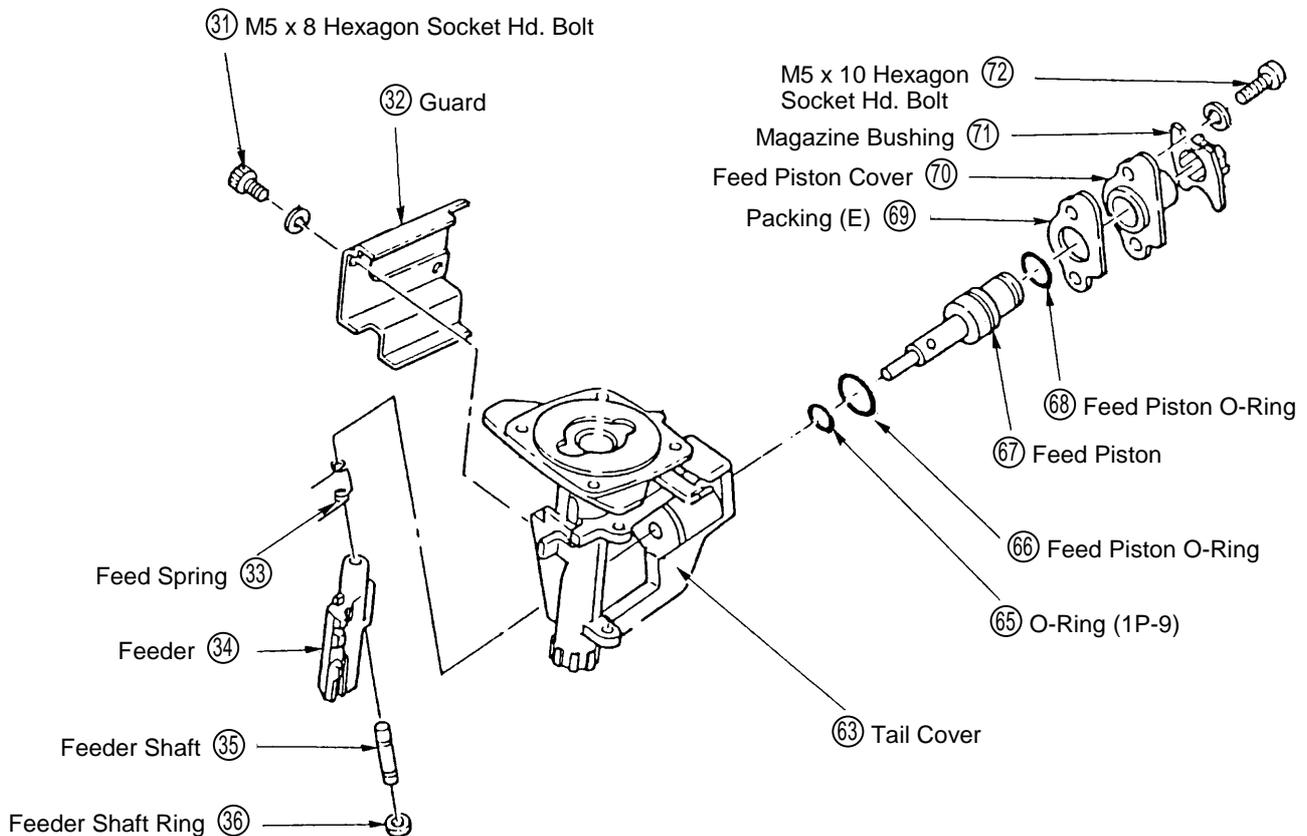

Fig. 17
(2) Feed Piston 67 Feeder 34 and related parts: (Refer to Fig. 17)